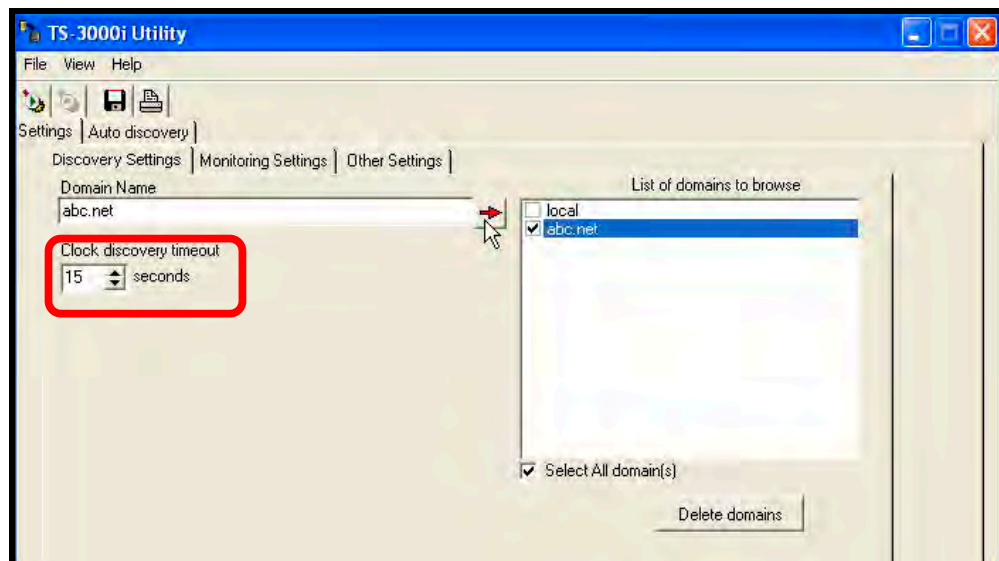

Figure 8-3: Settings
- Step 3.** In the Domain Name field, enter the domain name of your network and press the Red Arrow  button to load the Domain Name in the list on the right for discovery of all clocks in your companywide domain (see *Figure 8-3*). For example, the domain name of your companywide network might be “abc.net”.